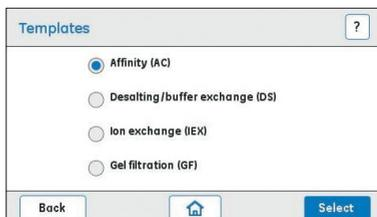

Fig 9. ÄKTA start display: Screenshot of the **Templates** screen.
- Tap **Templates** (Fig 9) from the Method run screen.